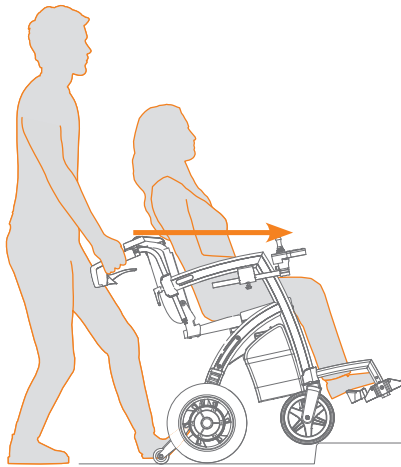

Figure 58: Going up a curb onto a pavement.
- b. Slowly pull the wheelchair backwards so the wheels of the tipping aids go up the curb (**Figure 58**). Reverse till all the wheels have climbed the curb.
To go up a curb onto a pavement (**Figure 58**):